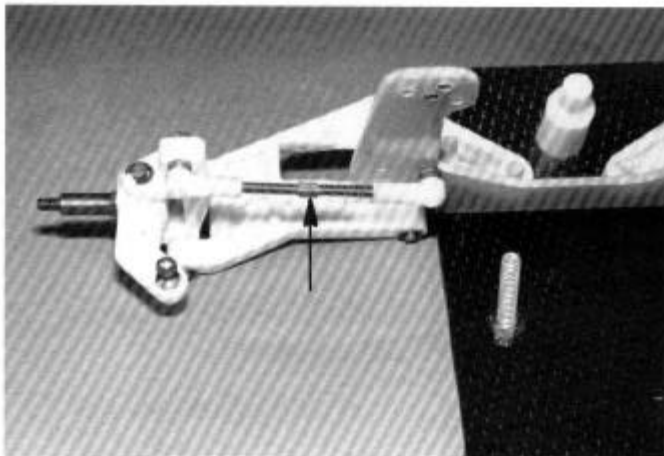

FIG. 21
□ **FIG. 21**—Now pop the linkage onto the balls as shown. Assemble the right hand side too.